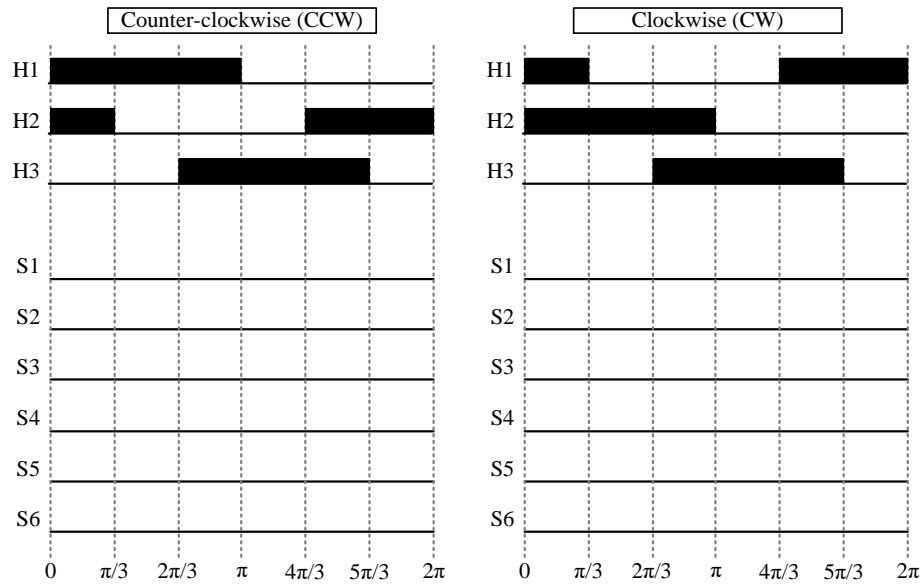

Figure 3. Device signals for BLDC motor drive based on Hall sensor signals.
- Sketch the PWM signals of BLDC motor in CW and CCW directions with respect to the Hall sensor signals in Fig. 3.
◇ Based on the drives signals in Fig. 3, how long is the dead time? Illustrated your answer in radian.